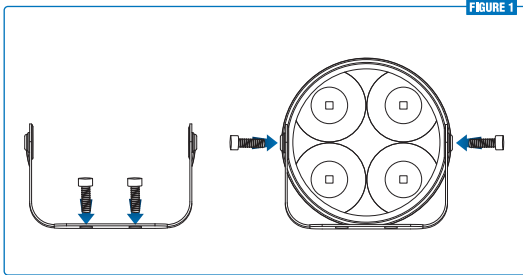

FIGURE 1
- 2 Decide mounting style. See Figure 1
- 4 Insert the screw through the hole, tighten screw to secure the light. Do not over tighten screw. See Figure 1